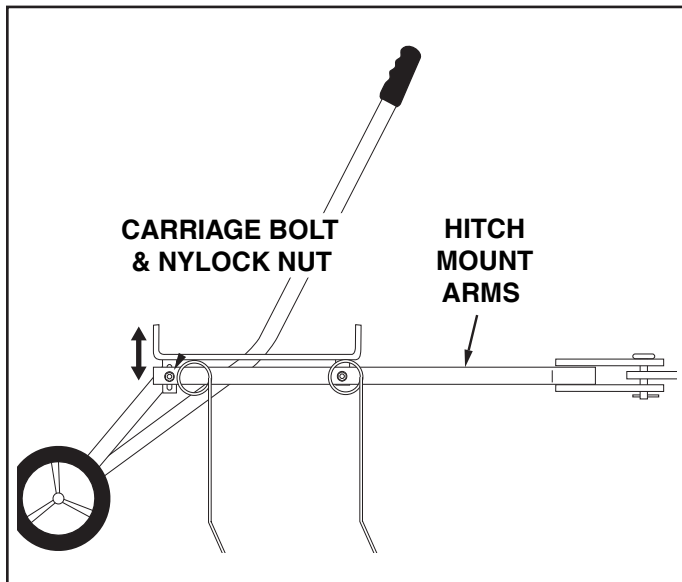

FIGURE 10
1. Move the towing vehicle onto a level surface, such as a driveway or garage floor and attach the tine dethatcher to the vehicle hitch. See figure 10.
2. To adjust the spring tine shield, lower the de-thatcher into operating position using the lift handle. Loosen the two hex nuts and carriage bolts which fasten the rear of the hitch mount arms to the hitch arm mount brackets. Adjust the tine shield until it is level and both the front and rear spring tines are in contact with the ground. Retighten the hex nuts. See figure 10.